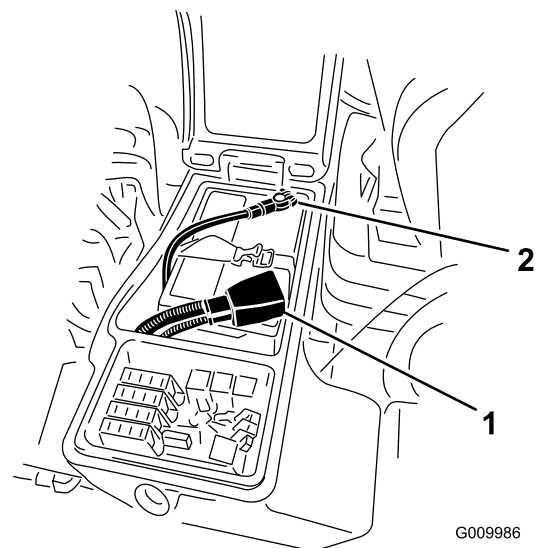

Figure 75
3. Remove the negative cable (black) from the negative (-) terminal and the positive cable (red) from the positive (+) terminal of the battery (Figure 75).
- Install the positive cable (red) to the positive (+) terminal and the negative cable (black) to the negative (-) terminal of the battery (Figure 75).